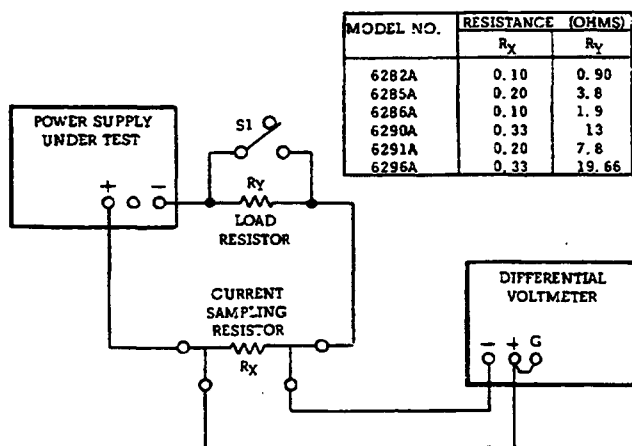

Figure 5-4. Output Current Test Setup
a. Connect test setup shown in Figure 5-4, leaving switch S1 open.
- a. Connect test setup shown in Figure 5-4.
- a. Utilize test setup shown in Figure 5-4 leaving switch S_1 open throughout test.
- a. Use test setup shown in Figure 5-4, except connect AC voltmeter across sampling resistor instead of differential voltmeter.